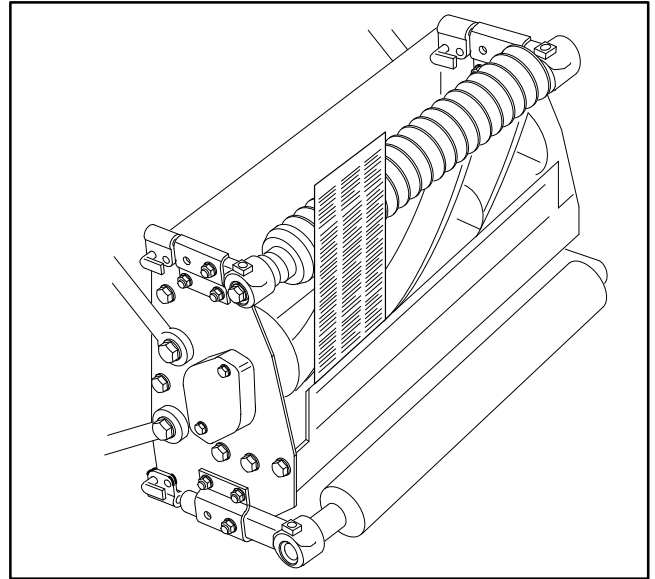
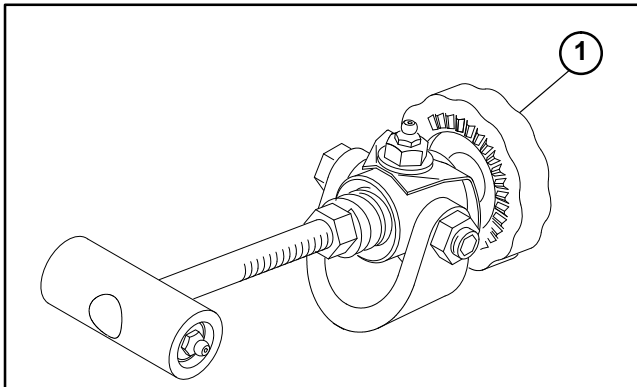
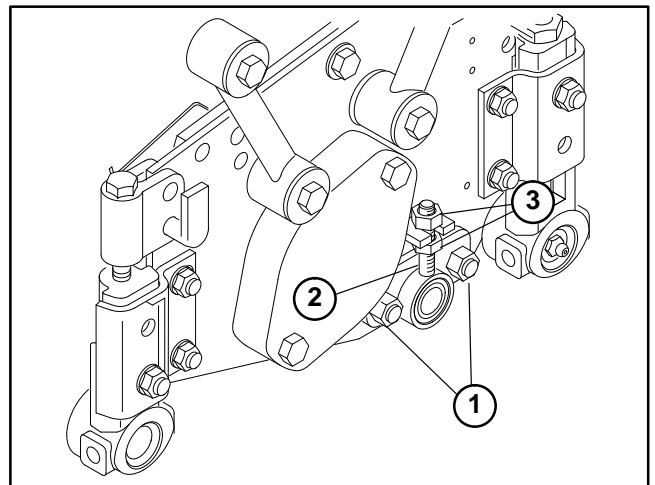

Figure 8
Figure 7
Figure 9
Bedknife Parallel to Reel (Fig. 7 through Fig. 9)
1. Remove any reel contact by turning the bedknife adjustment knob counterclockwise (Fig. 7). Tip cutting unit to gain access to the reel and bedknife (Fig. 8).
4. Loosen both carriage bolts on bedbar adjuster (Fig.9).
5. Adjust nuts to move bedbar adjuster up or down until paper is pinched along entire bedknife surface, when bedknife adjustment knob is adjusted to no more than two clicks beyond first contact of reel bedknife (Fig.9).